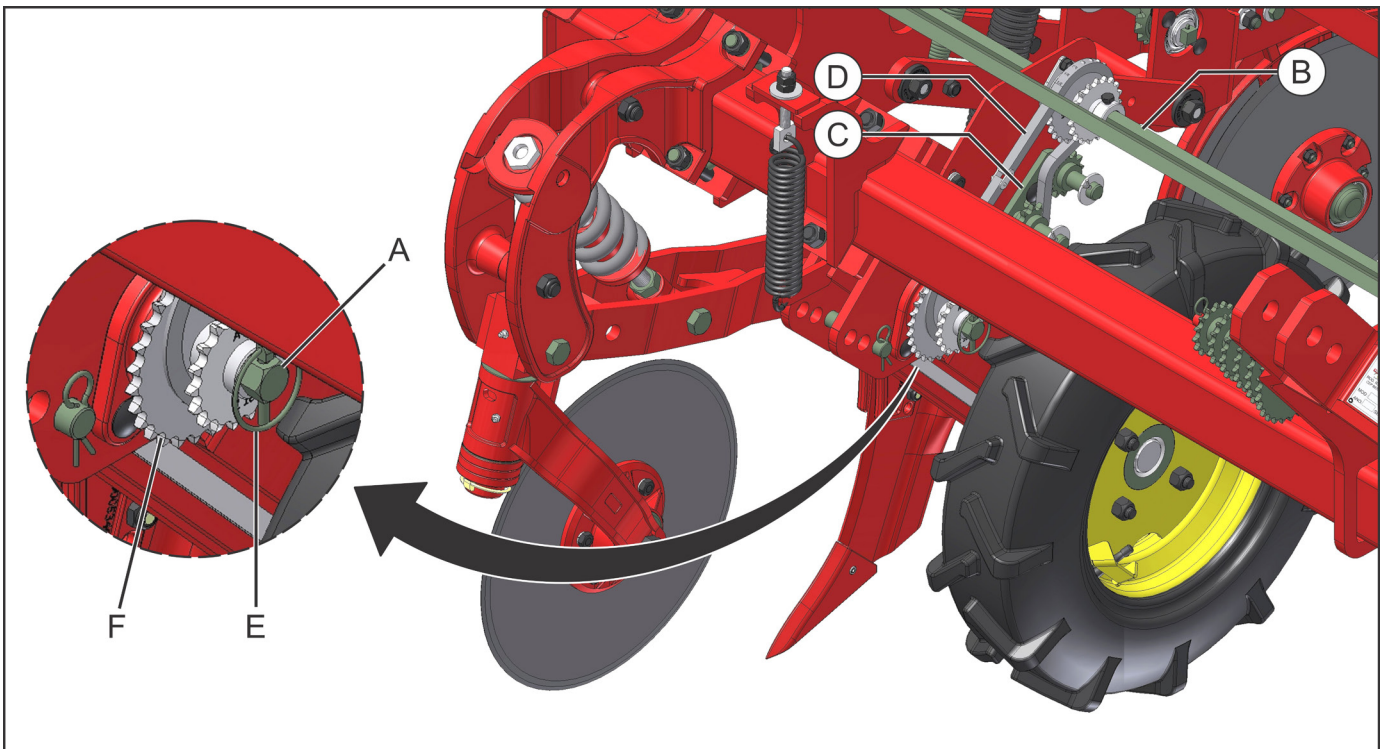

fig. 09
Adjustment of the seed quantity is achieved by exchanging the sprockets, the drive shaft (A) (fig. 09) and the driven shaft (B).